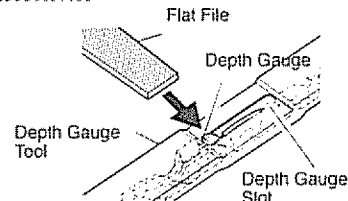

Figure 24 - Depth Gauge Tool On Chain
- 1 Place depth gauge tool (.025") firmly across top of two cutters. Make sure depth gauge enters slot in depth gauge tool (see Figure 24)